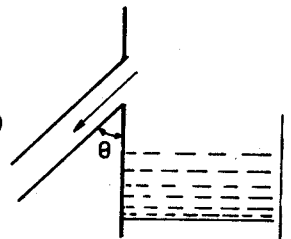

Fig. 15
37. In the passage of fluid from a reservoir to a pipe, over a square edge and non-re-entrant pipe inclined at angle θ as shown in Fig. 15, the coefficient of head loss